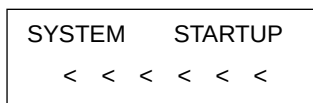

Fig 3.1.1
- A. Self-detecting: the first line of LCD display shows "SYSTEM STARTUP". The second line shows "<" and "<" increases successively till it fills the screen with one sound "di" as Fig 3.1.1.
If keyboard sound is turned on, "<" increases successively with sound "di,di..." as Fig 3.1.1.